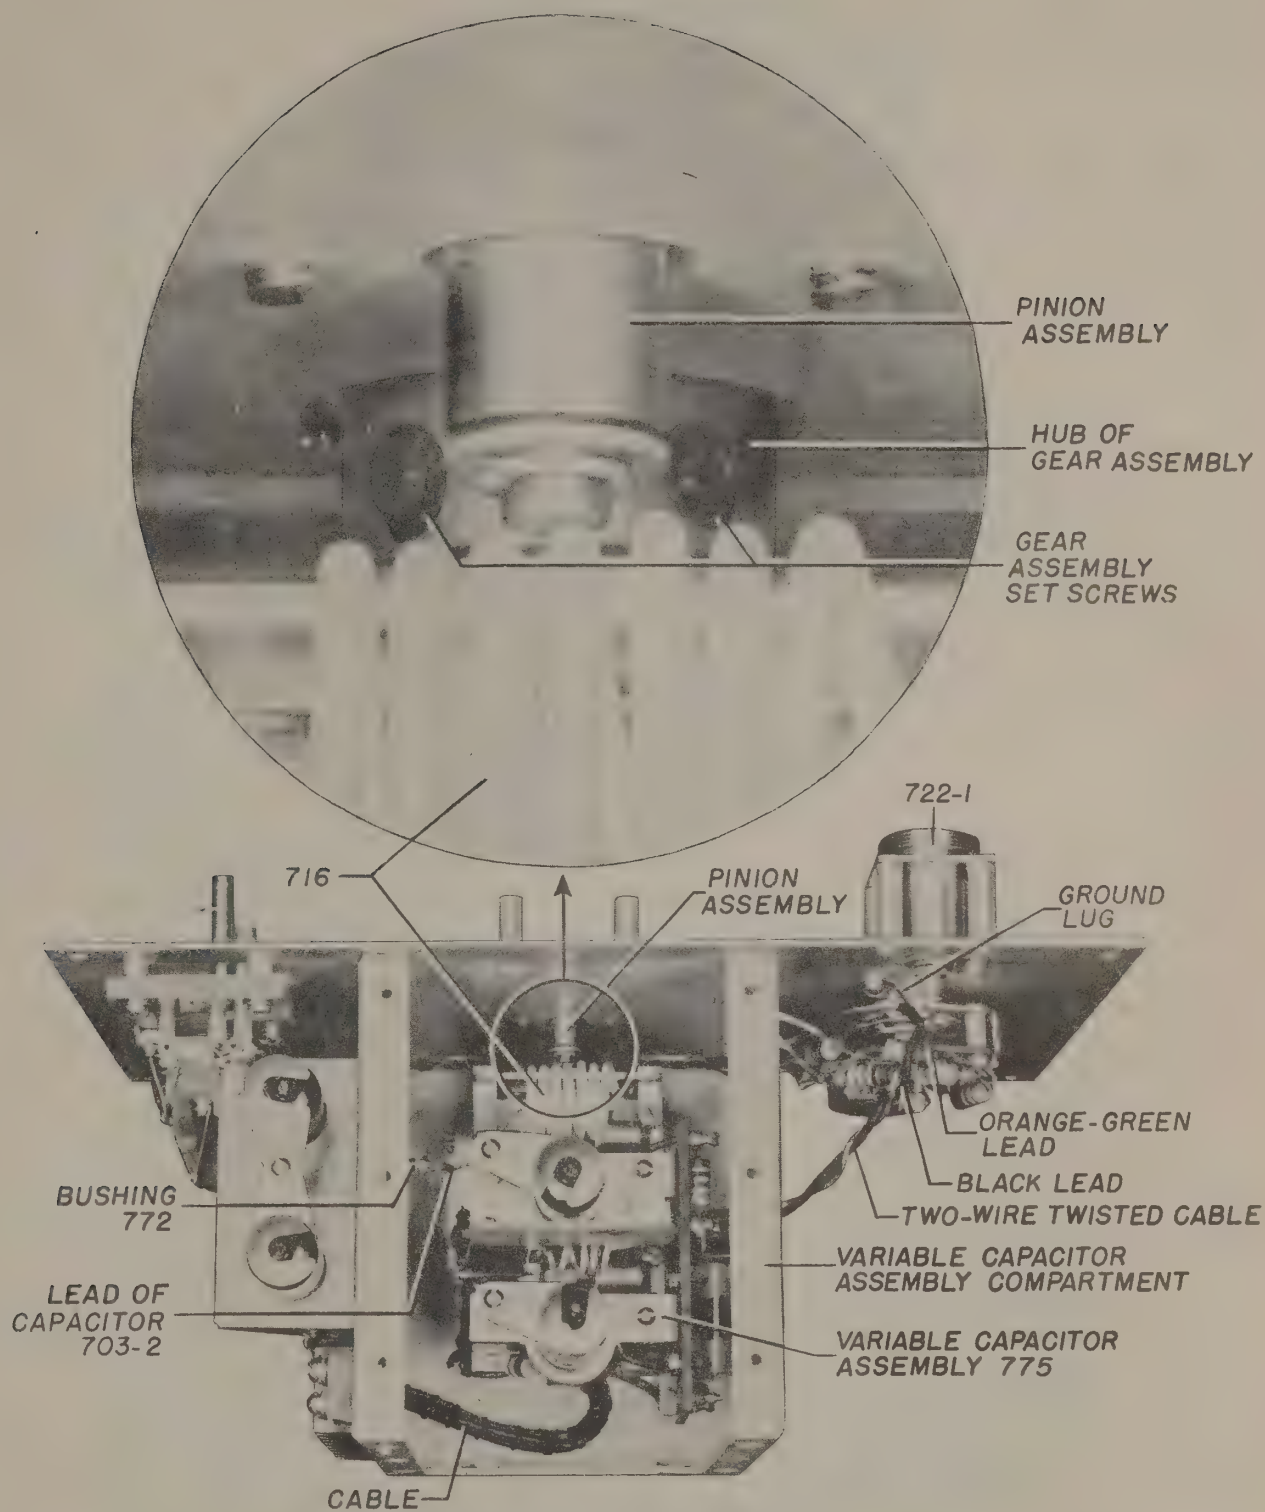

FIGURE 22—SIGNAL GENERATOR I-130-A, R-F UNIT, TOP VIEW, FRONT PANEL REMOVED
(4) Unsolder capacitor 703-2 from bushing 772 (see FIGURE 22). Unsolder the orange-green lead of the twisted cable from socket 722-1 (see FIGURE 22) and unsolder the black lead from the ground lug. Draw this cable